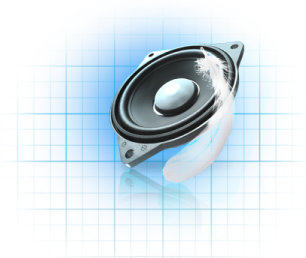

Abbildung 12
- Abbildung 12 http://static.harmanardon.com/tl_files/themes/shop/skins/harmanshop/02/images/automotive/tech/tech-loudspeaker-bg.png